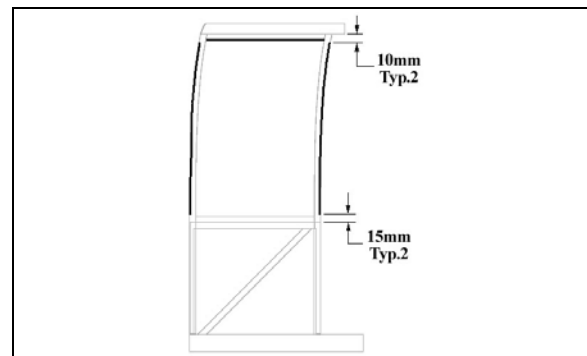

FIGURE 55 : SIDE WINDOW – ¼ X ½ DOUBLE FACE ADHESIVE TAPE INSTALLATION
3. Apply ¼" X ½" double face self adhesive tape on the slide-out structure for side fixed window (see FIGURE 55) [10mm≈3/8"] [15mm≈19/32"];